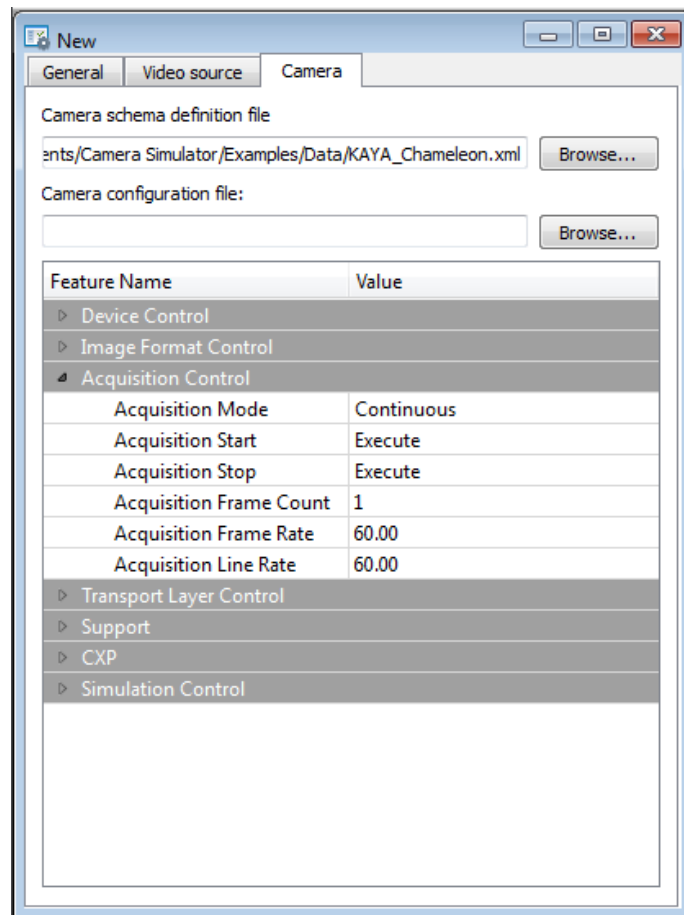

Figure 22: New XML file loaded
5. Once the XML file is specified, camera properties will be displayed and loaded with default values as shown in Figure 22. If the XML file doesn’t load correctly, an error probably exists in the chosen file. In this case the XML file structure must be repaired or another XML file is to be loaded.